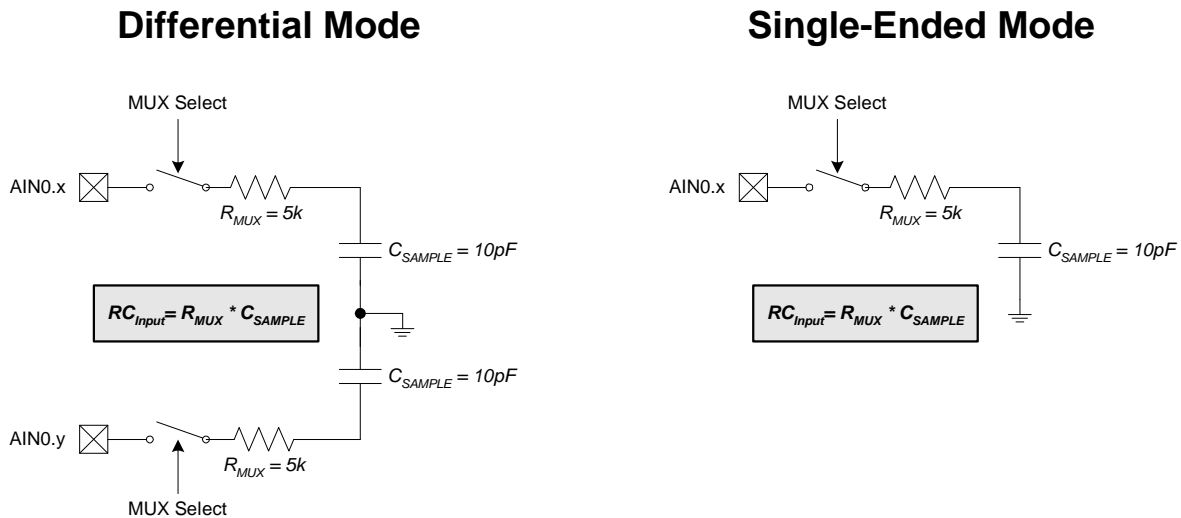

Figure 5.4. ADC0 Equivalent Input Circuits
A minimum tracking time is required before an accurate conversion can be performed. This tracking time is determined by the ADC0 MUX resistance, the ADC0 sampling capacitance, any external source resistance, and the accuracy required for the conversion. Figure 5.4 shows the equivalent ADC0 input circuits for both Differential and Single-ended modes. Notice that the equivalent time constant for both input circuits is the same. The required settling time for a given settling accuracy (SA) may be approximated by Equation 5.1. When measuring the Temperature Sensor output, R_{TOTAL} reduces to R_{MUX} . An absolute minimum settling time of 1.5 μ s is required after any MUX or PGA selection. Note that in low-power tracking mode, three SAR clocks are used for tracking at the start of every conversion. For most applications, these three SAR clocks will meet the tracking requirements.